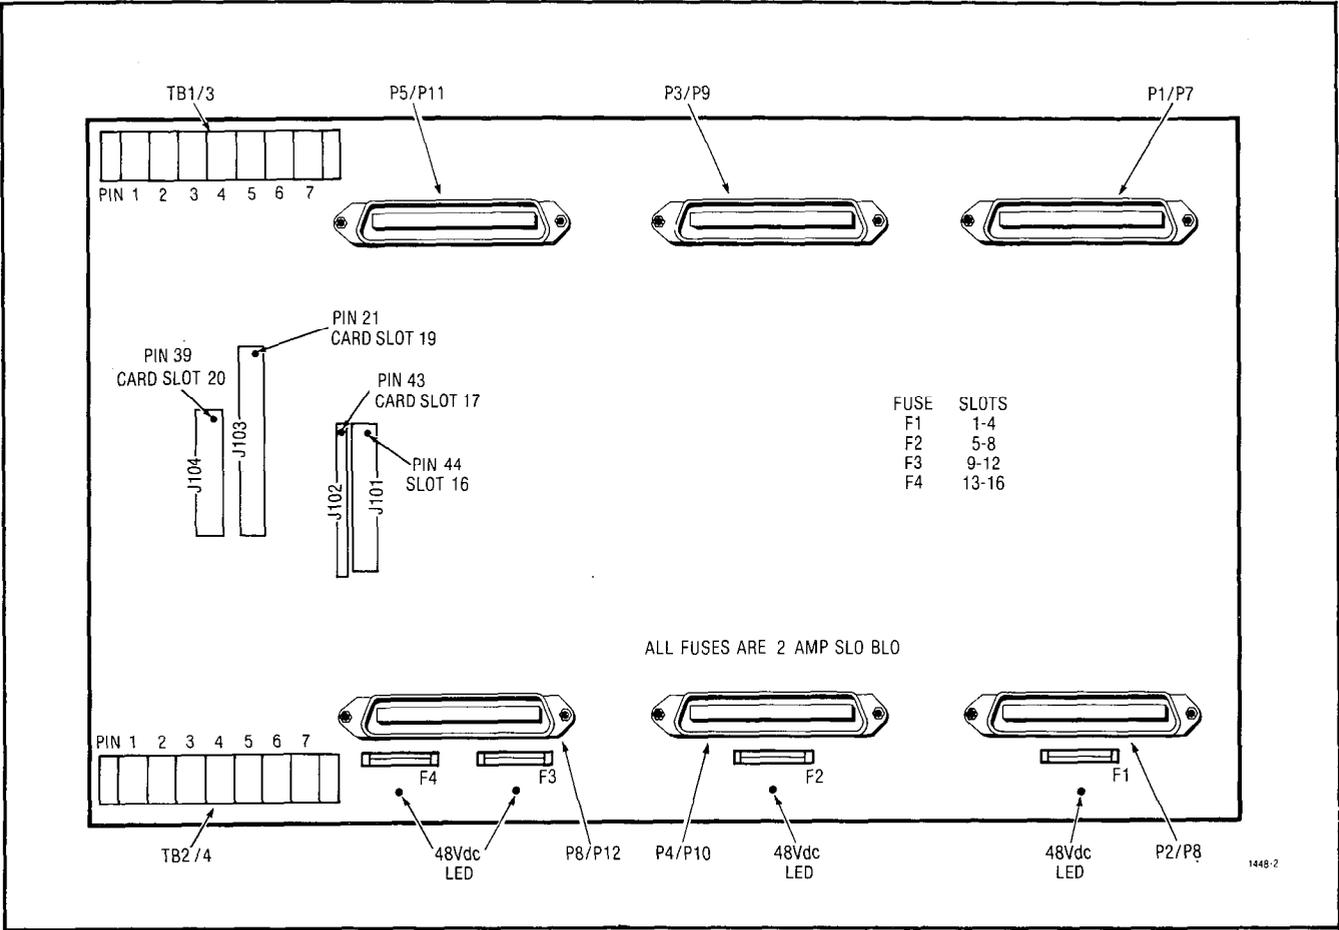
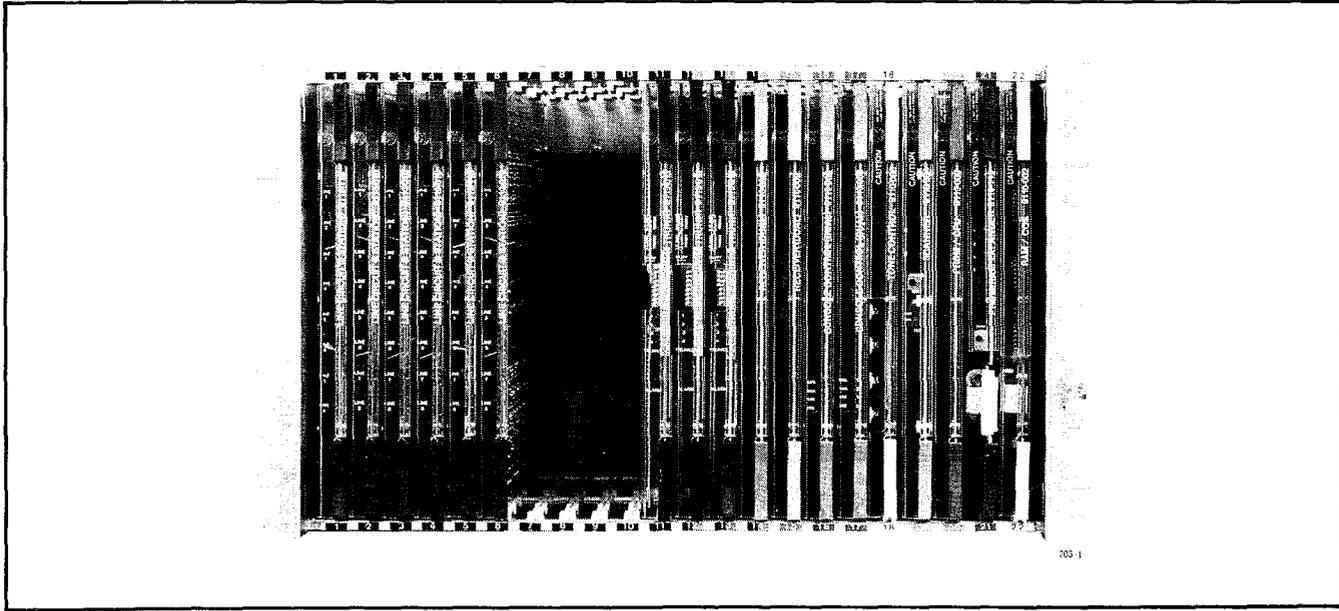

Fig. 2-9 Backplane
Fig. 2-10 Equipment Shelf
2.22 The same backplane and equipment shelf are used in both the SX-100 and SX-200. Field replacement of only the backplane is not recommended; rather the whole equipment shelf should be replaced (Fig. 2-10). The backplane essentially provides an interface between all printed circuit cards (paragraphs 2.01 - 2.14) and extensions, trunks and miscellaneous equipment. Physically the backplane has six 25 pair amphenol type connectors for equipment, extensions and trunks. It may have four fuses (Fig. 2-9). Each fuse is rated at 2 amps, - 48Vdc (UL approved) and has a LED which will light if the fuse blows and there is a card in one of the associated slots. All power for the backplane is provided by terminal blocks TB1/2 and TB3/4. All PCB cards are held in position by PCB edge connectors on the backplane, and plastic guides on the shelf. In both the SX-100 and SX-200 the backplane power is fed by a cable from the output of the power supply.